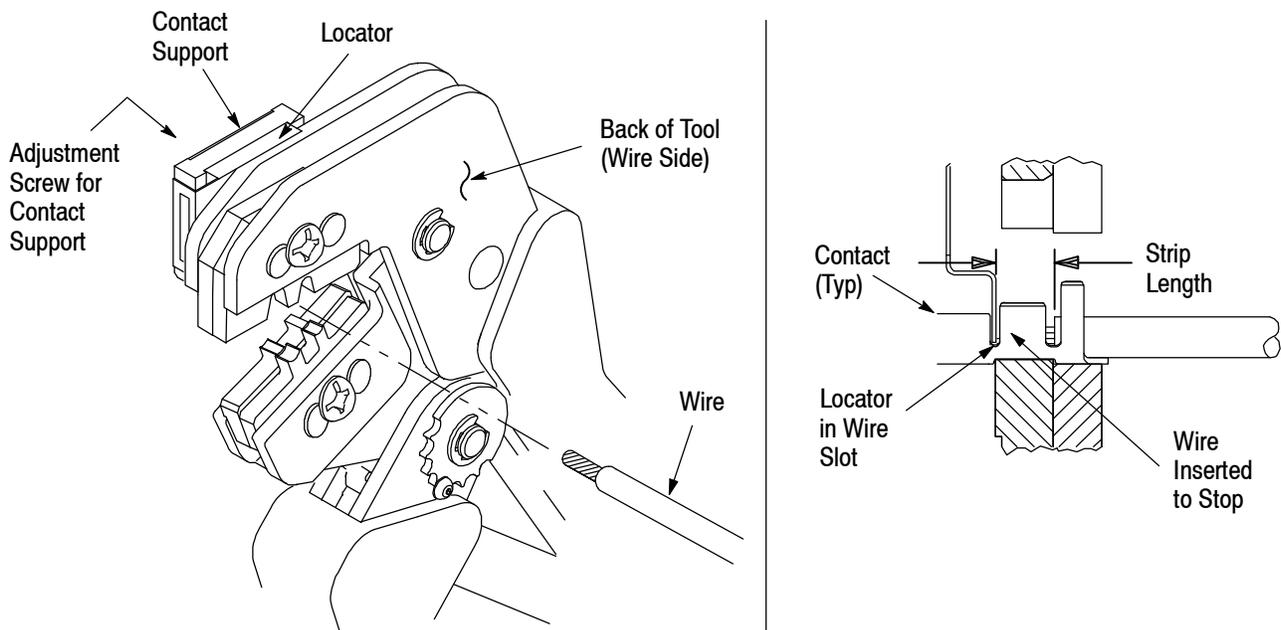

Figure 3
#### 4. CONTACT SUPPORT ADJUSTMENT (Figure 3)
Refer to the table in Figure 1 and select wire of the specified size and insulation diameter. Strip the wire to the length indicated in Figure 1, taking care not to nick or cut wire strands. Select an applicable contact and identify the appropriate crimp section according to the wire size markings on the tool. Refer to Figure 3 and proceed as follows:
3. Position the contact so that the mating end of the contact is on the locator side of the tool, and so that the open “U” of the wire and insulation barrels face the top of the tool. Place the contact up into the nest so that the movable locator drops into the slot in the contact. Refer to Figure 3. Butt the front end of the wire barrel against the movable locator.
5. Insert stripped wire into contact insulation and wire barrels until it is butted against the wire stop, as shown in Figure 3.
**NOTE** The crimped contact may stick in the crimping area, but the contact can be easily removed by pushing downward on the top of the locator (see Figure 3).